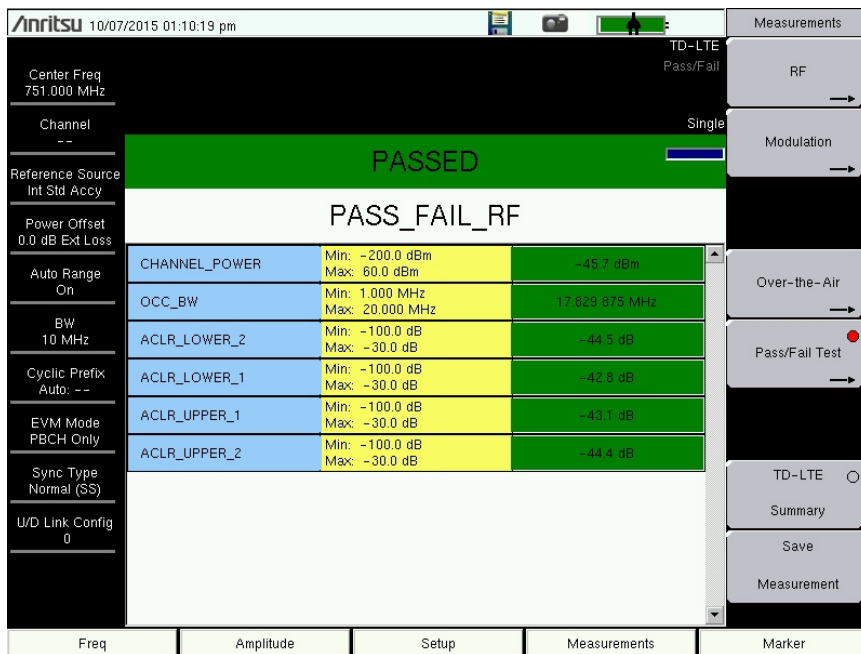

Figure 6-14. Past/Fail Test
2. Press the Pass/Fail Test submenu key to activate the Pass/Fail display in table format (Figure 6-14). Press the Pass/Fail Test submenu key again to select a Pass/Fail test.